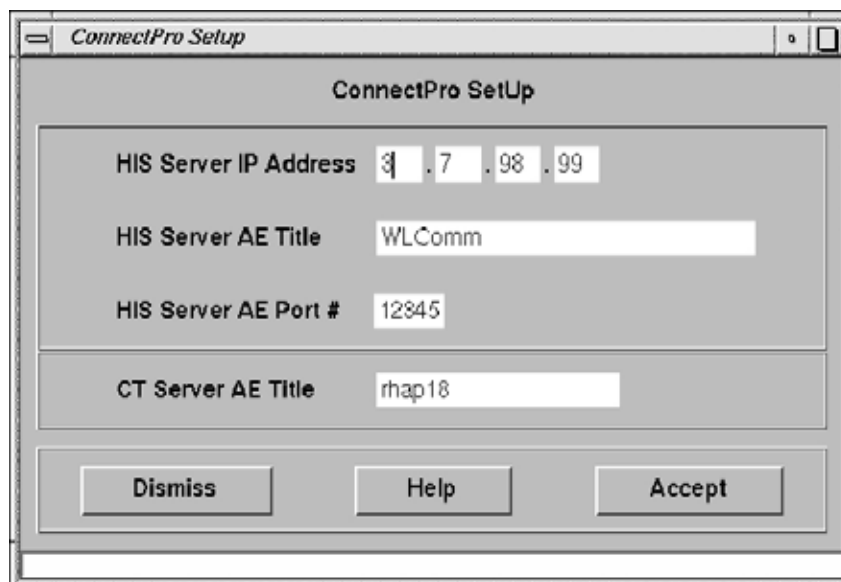

Figure 4-7 ConnectPro Setup Screen
- the console displays the ConnectPro Setup window as shown in Figure 4-7.